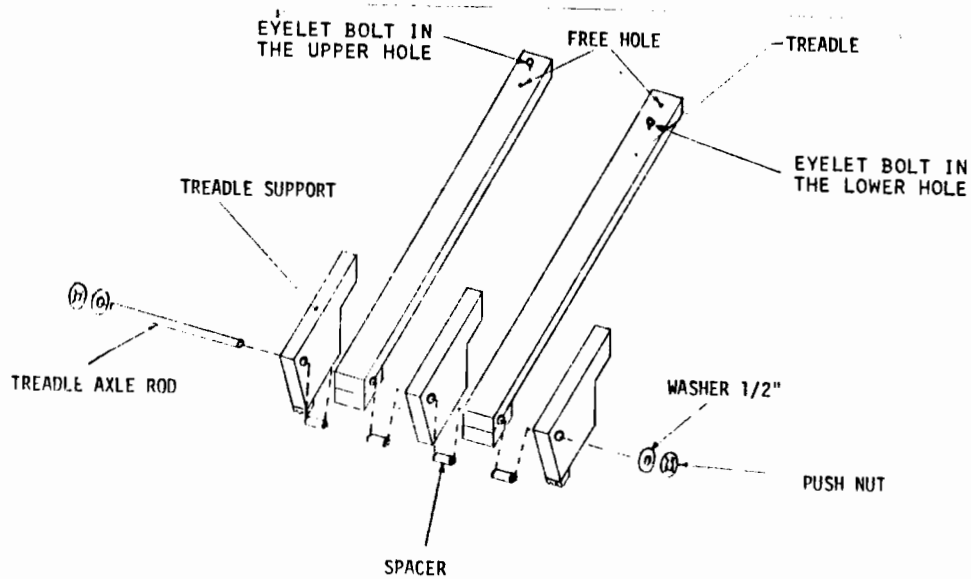

Fig. 6
Insert the treadle rod in the blocks by placing the four (4) spacers and the two (2) treadles as shown on Figure 6. Place a $\frac{1}{2}$ " washer and a new push nut on each end of the rod. Install the assembled treadle set on the loom with the same bolts.